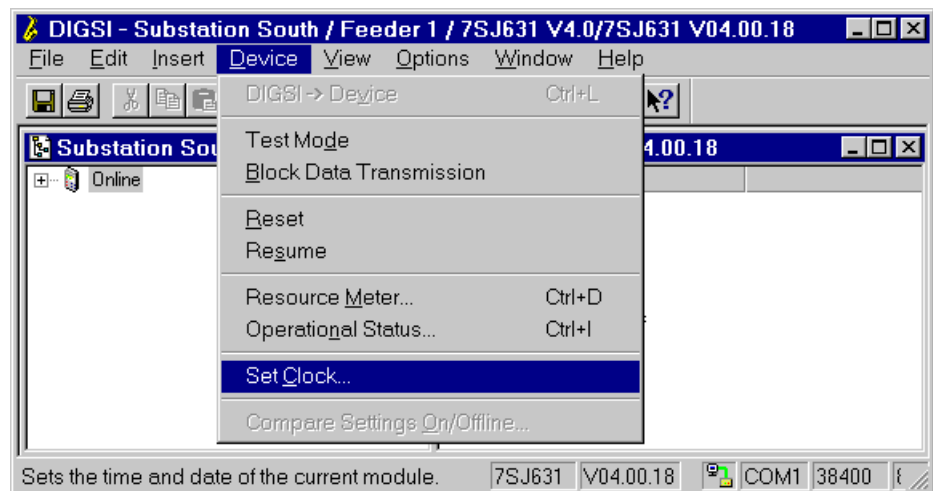

Figure 3-11 DIGSI® 4 — Selection of the option **Set Clock**
- Click on **Device** in the menu bar. See Figure 3-11.